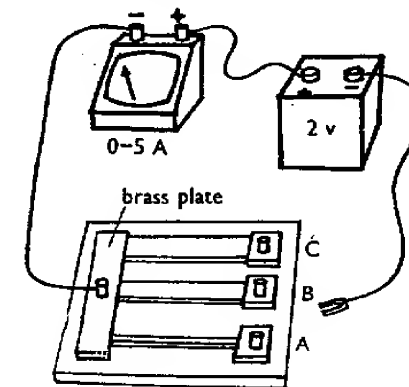

Fig. 90
Experiment 2.42. Take three carbon rods of equal length and different cross sectional areas and attach one end of each rod to a brass strip. If small brass plates and terminals are attached to the other ends also, better connections can be made. Wire up the circuit as shown in Fig. 90. Attach the wire to the end of the thinnest carbon rod (A) and note the current. Now move the wire to B and then to C, noting the current each time. How does the current alter as the cross-sectional area of the carbon is increased? Which conductor offers most resistance to the current?